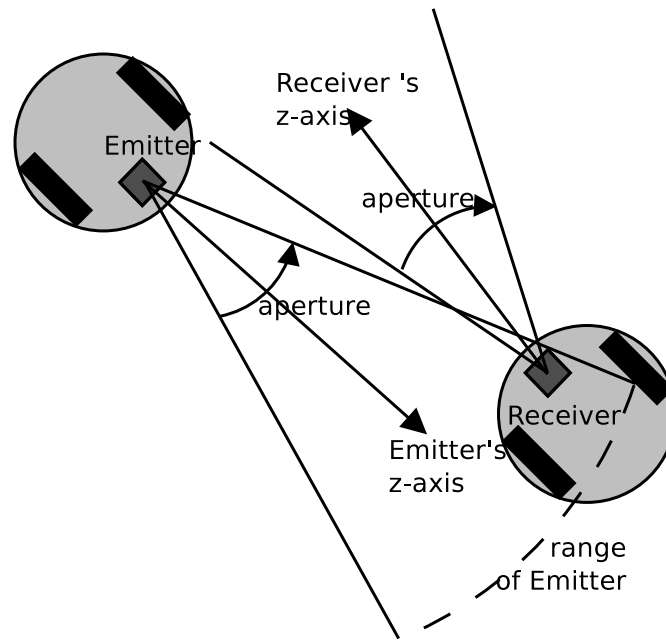

Figure 3.16: Illustration of aperture and range for "infra-red" Emitter/Receiver
- **aperture** opening angle of the emission cone (in radians); for "infra-red" only. The cone's apex is located at the origin ([0 0 0]) of the emitter's coordinate system and the cone's axis coincides with the *z*-axis of the emitter coordinate system. An "infra-red" emitter can only send data to receivers currently located within its emission cone. An aperture of -1 (the default) is considered to be infinite, meaning that the emitted signals are omni-directional. For "radio" and "serial" emitters, this field is ignored. See figure 3.16 for an illustration of **range** and **aperture**.